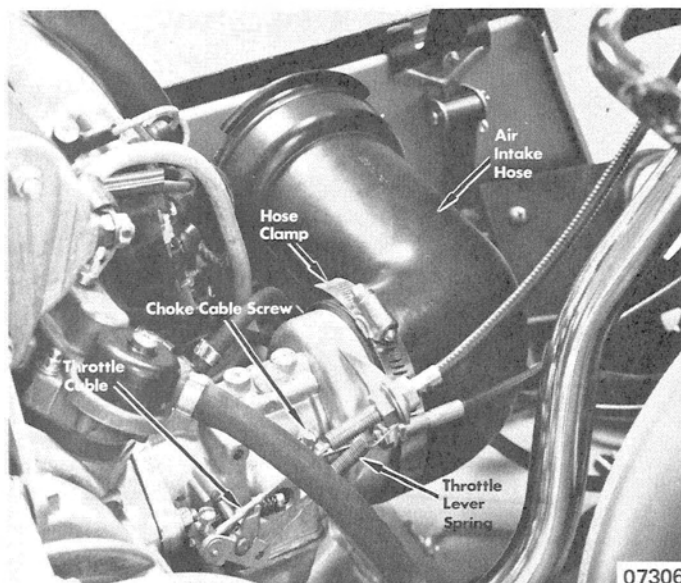

Figure 2. Air Inlet Hose
2. Loosen hose clamp and remove air intake assembly. (Figure 2)
4. Loosen throttle cable and choke cable from carburetor linkage. (Figure 2)